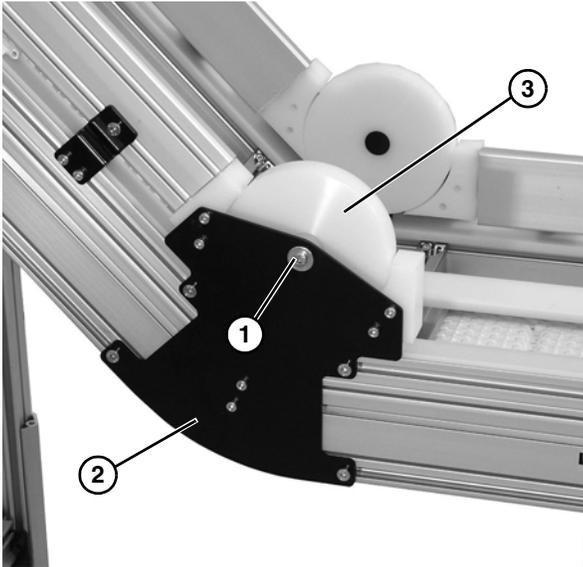

Figure 58
1. Remove cap screw (**Figure 58, item 1**), washer, and spacer on side of lower knuckle assembly (**Figure 58, item 2**), and remove hold down guide (**Figure 58, item 3**). Repeat on opposite side.